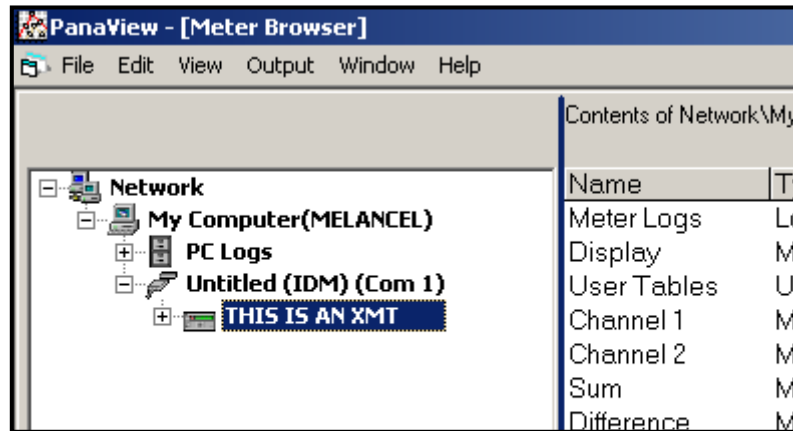
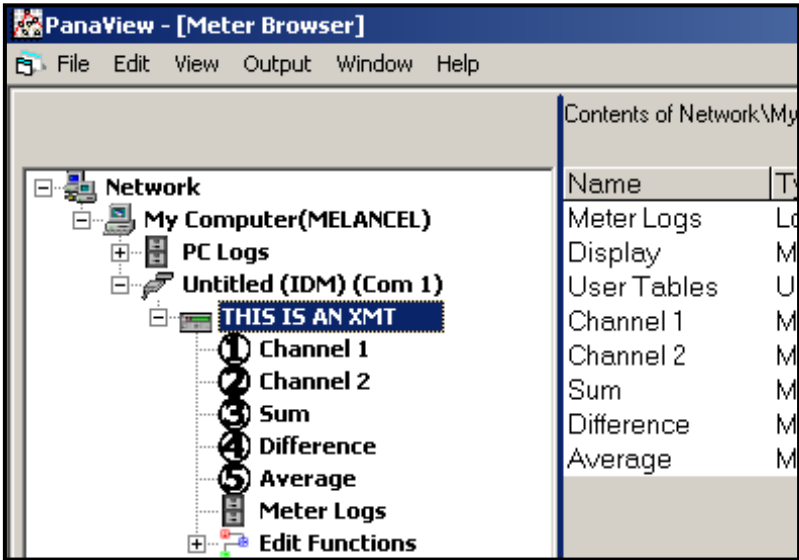

Figure 38: The Updated Network Tree
Figure 40: Meter Tree with *Edit Functions* Option
If the initialization is successful, the *Meter Browser* shows a listing similar to *Figure 38*.
1. From the meter tree in the *New Meter Browser* (see Figure 38 on page 88), click on the XMT entry. The screen now appears similar to Figure 40.